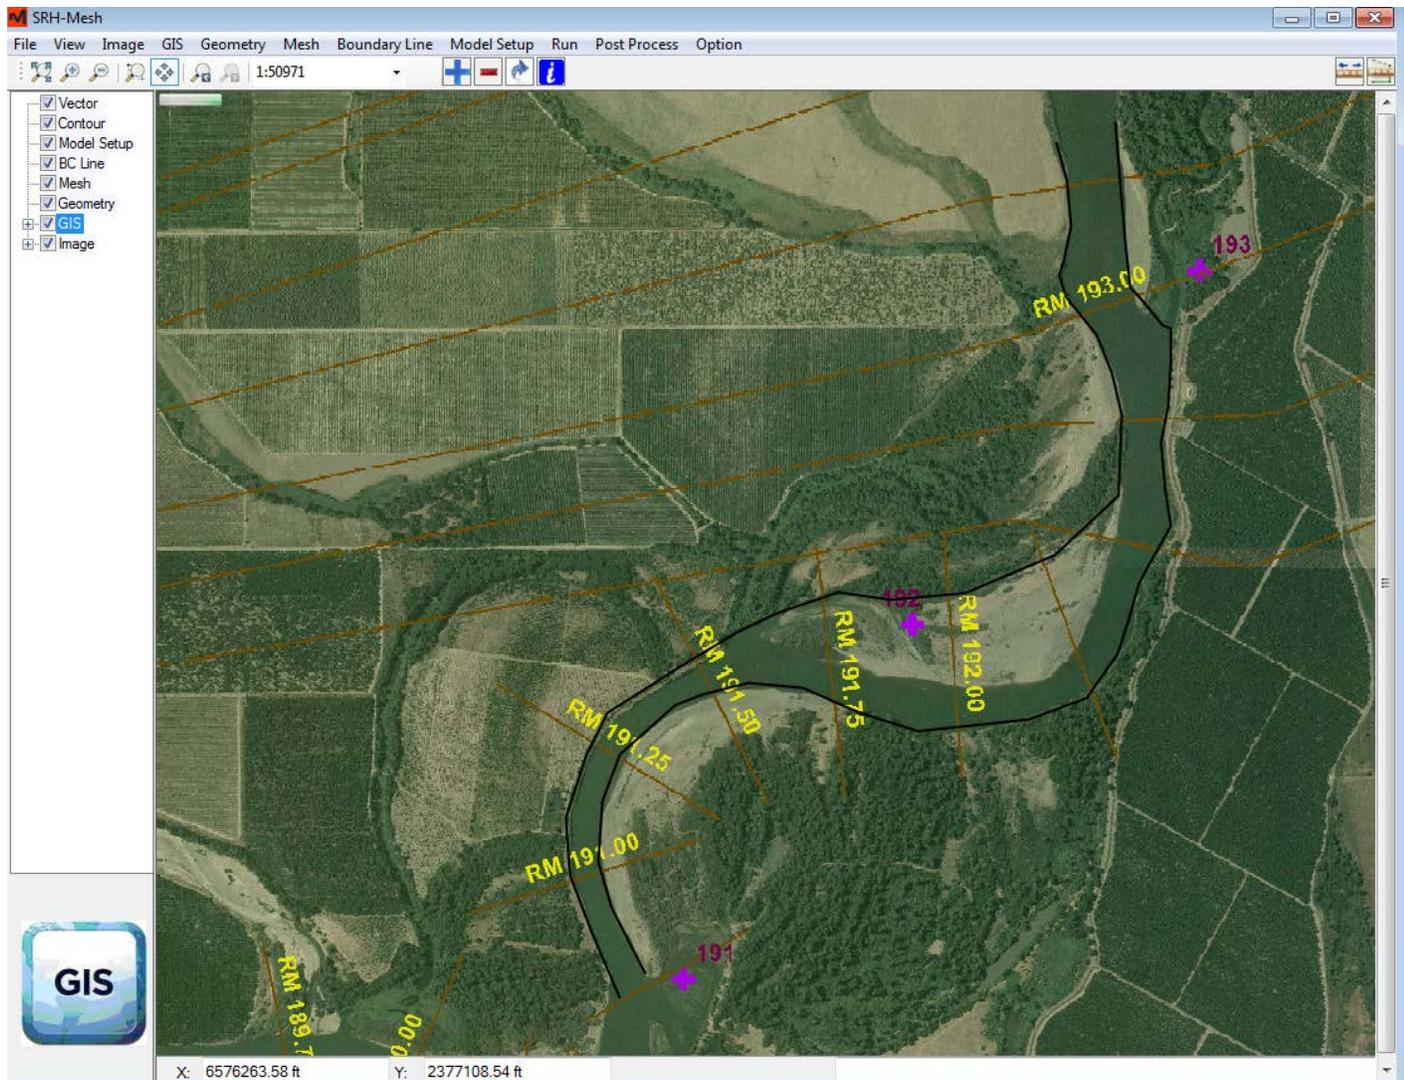

Figure 5-4. Input GIS polylines.
Step 6: Click the GIS Module in the table of contents and click the add button **+** in the GIS Module toolbar to add the GIS shapefile to the project. Navigate to GIS file Data\Sacramento_RM192 and select the “boundary.shp” file to add the GIS polyline feature to the project. Use the zoom buttons to check the polyline (Figure 5-4).